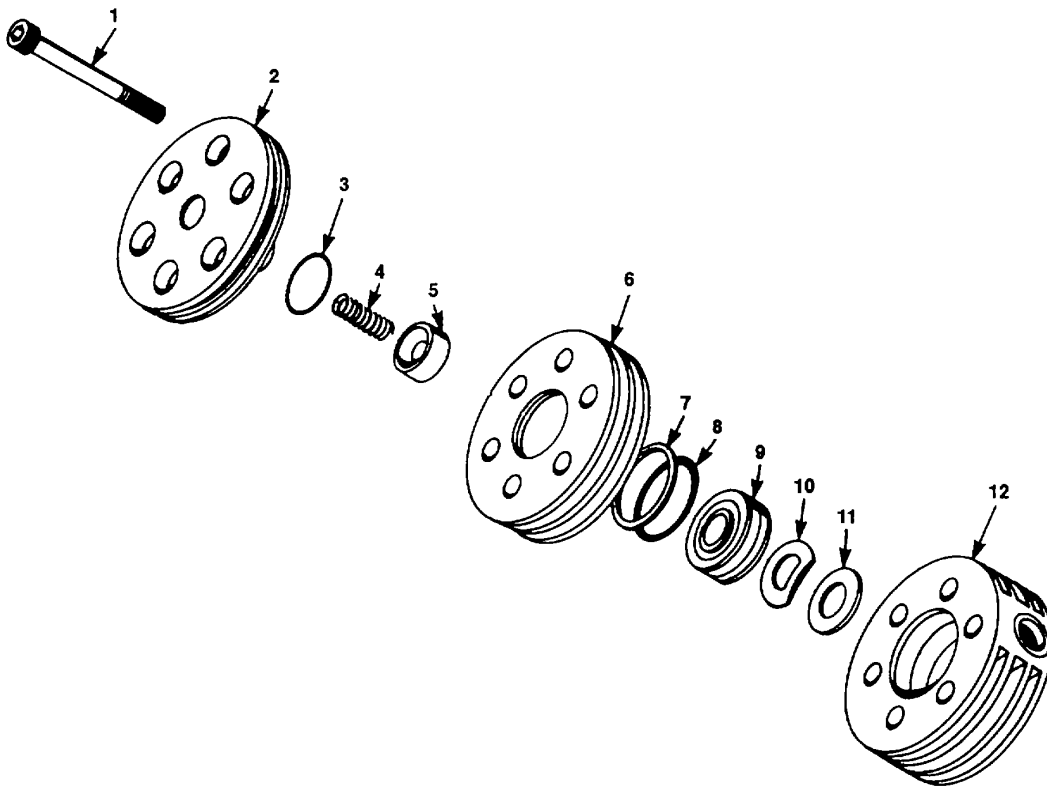

Figure 4-6. Valve Head, 4th Stage
- c. Changing the valves of the 4th stage. Refer to figure 4-6.